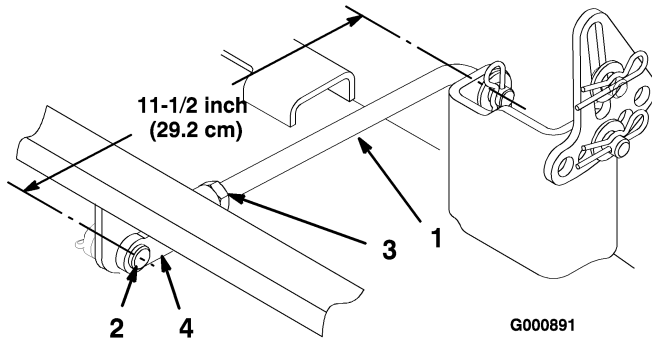
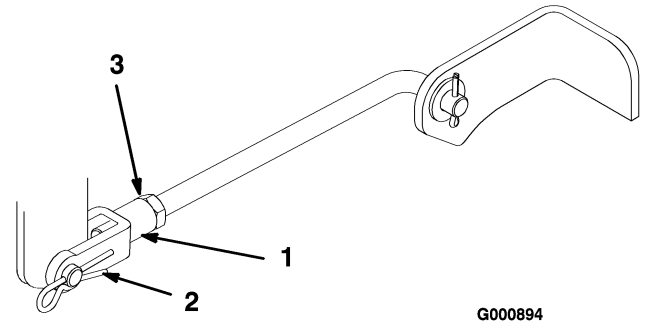

Figure 44
Figure 46
6. Measure the length of the rear trunion rod (Figure 44). If the rod length is not 11-1/2 inch (29.2 cm), remove the clevis pin and cotter
pin from the end of the rod (Figure 44), loosen the jam nut, and turn the yoke until the 11-1/2 inch (29.3 cm) dimension is obtained.
- To adjust the front-to-rear blade slope, remove the hairpin cotter from the front trunion yokes and loosen the jam nuts (Figure 46).
- Rotate the yokes on the rods to change the adjustment (Figure 46). To raise the front of the mower, tighten the yokes (shorten the rods). To lower the front of the mower, loosen the yokes (lengthen the rods).
- When the front-to-rear blade slope is correct, tighten the jam nuts (Figure 44 and Figure 46).